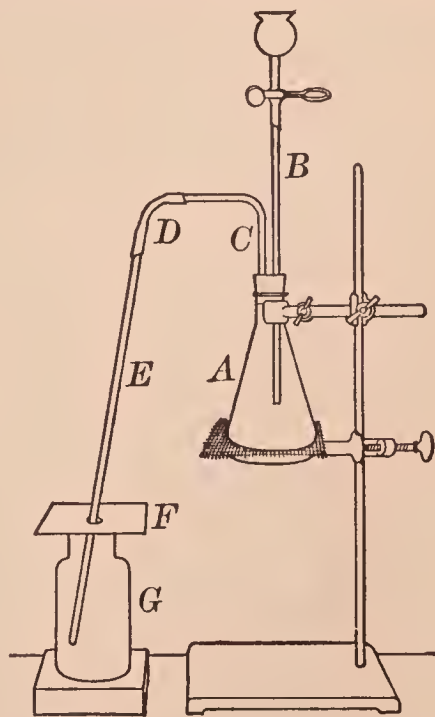

FIG. 54. — Apparatus for preparing sulfur dioxide and sulfurous acid
**APPARATUS.** — As in Fig. 54.
**I. Preparation.** — (a) **Sulfur Dioxide.** — Put about 10 gm. of sodium sulfite in the flask, and insert the stopper with its tubes. Adjust the apparatus as shown in Fig. 54. Fill the cup with dilute sulfuric acid, press the pinch-clamp a little, and let the acid flow *drop by drop* upon the sodium sulfite. Sulfur dioxide is evolved and passes into the bottle, which should be removed when full, as previously described. Warm gently, if the action slackens. Moist blue litmus paper held for an instant at the mouth of the bottle will show (by change in color) when the latter is full. Collect two